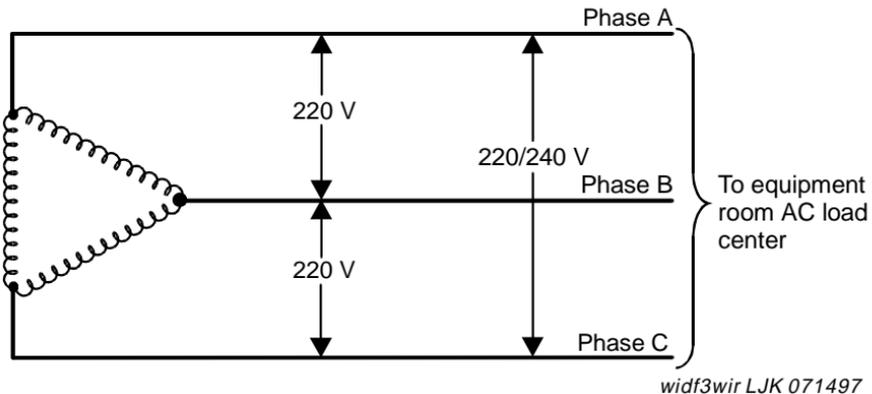

Figure 19. International Delta, 220 or 240 VAC, 50-Hz Source
- International Delta, 3-wire, 220 or 240 VAC. See Figure 19.